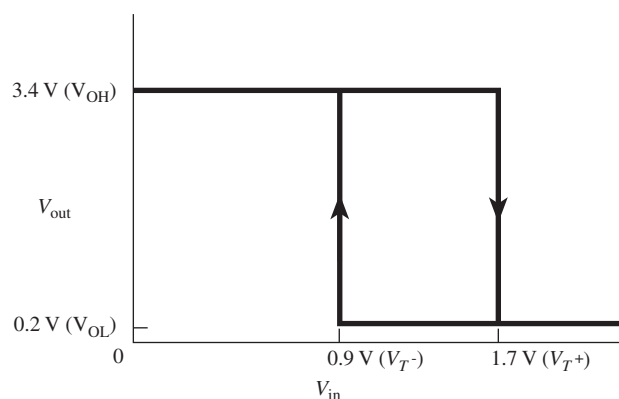
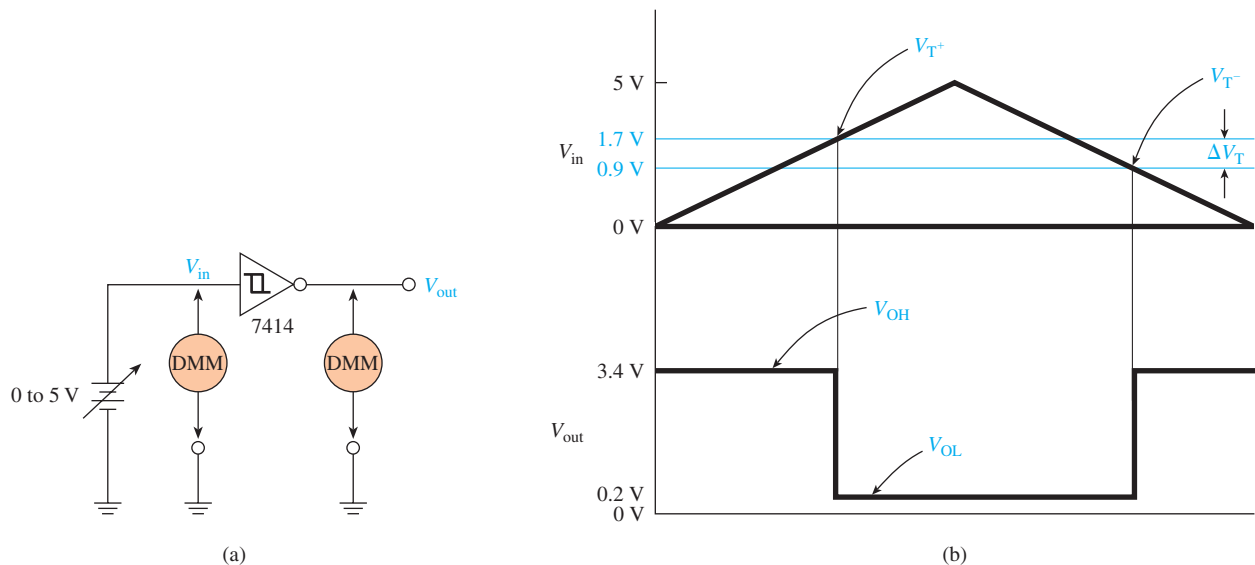

Figure 11-28 Transfer function for a 7414 Schmitt trigger inverter.
Figure 11-29 Circuit used to experimentally produce a Schmitt trigger transfer function; (a) circuit diagram, (b) V_{in} , V_{out} versus time waveforms.
How would the transfer function of a noninverting Schmitt differ from Figure 11-28?
Figure 11-28 shows the transfer function for the 7414. The transfer function graph is produced experimentally by using a variable voltage source at the input to the
Schmitt and a DMM (digital multimeter) at V_{in} and V_{out} , as shown in Figure 11-29(a) and (b).
As the V_{in} of Figure 11-29(a) is increased from 0 V up toward 5 V, V_{out} will start out at approximately 3.4 V (1) and switch to 0.2 V (0) when V_{in} exceeds the positive-going **threshold** (≈ 1.7 V) as shown in Figure 11-29(b). The output transition from HIGH to LOW is also indicated in Figure 11-28 by the downward arrow. As V_{in} is increased up to 5 V, V_{out} remains at 0.2 V (0).
As the input voltage is then decreased down toward 0 V, V_{out} will remain LOW until the negative-going threshold is passed (≈ 0.9 V). At that point, the output will switch up to 3.4 V (1), as indicated by the upward arrow in Figure 11-28. As V_{in} continues to 0 V, V_{out} remains HIGH at 3.4 V. The hysteresis in this case is $1.7 \text{ V} - 0.9 \text{ V} = 0.8 \text{ V}$.